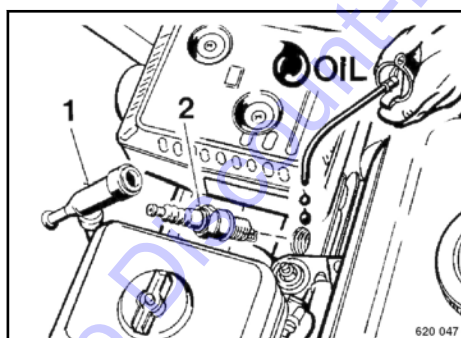

Fig. 72
Pull off the spark plug socket (1) ↷ Fig. 72 and unscrew the spark plug (2).